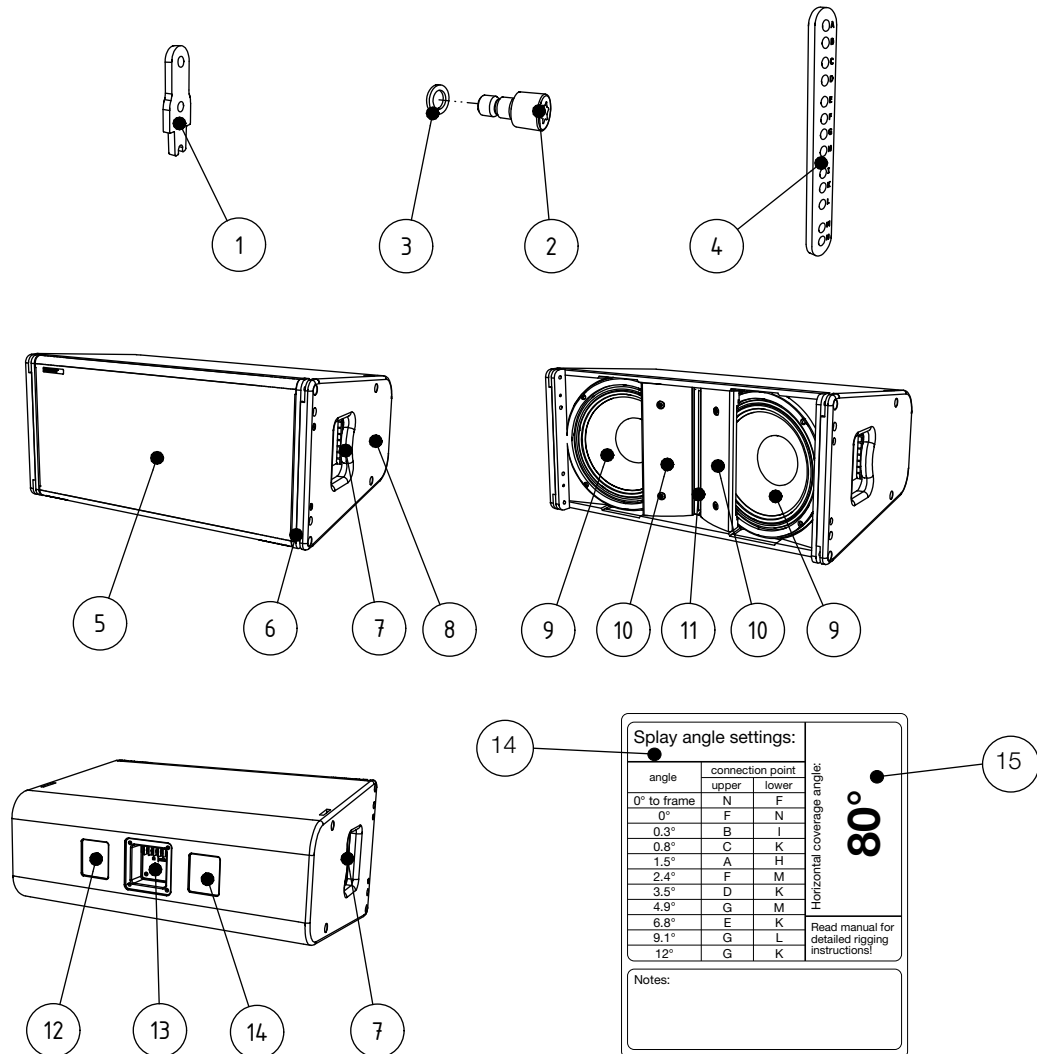

Figure 2.1 - Overview
The VERA20i loudspeaker can optionally be equipped with 80° or 120° horn flanges. The angle specification refers to horizontal coverage. Check the info label to identify the VERA20i variant (see figure 2.1 – Position 14).
As standard setting an information label will be placed on the VERA20i loudspeaker after assembly. Depending on the application it might be useful to adapt the dispersion of the loudspeaker by changing the horn flares. In this case an additional label is enclosed which has to be placed over the original information label (figure 2.1- pos.14 and pos.15). This label can be removed again when necessary.
In order to connect the VERA20i loudspeakers mechanically with each other, the rigging tracks and brackets have to be used. They are positioned to the left and right (figure 2.1 - pos.6 and pos.1 and pos.4) and also via the brackets on the sides.